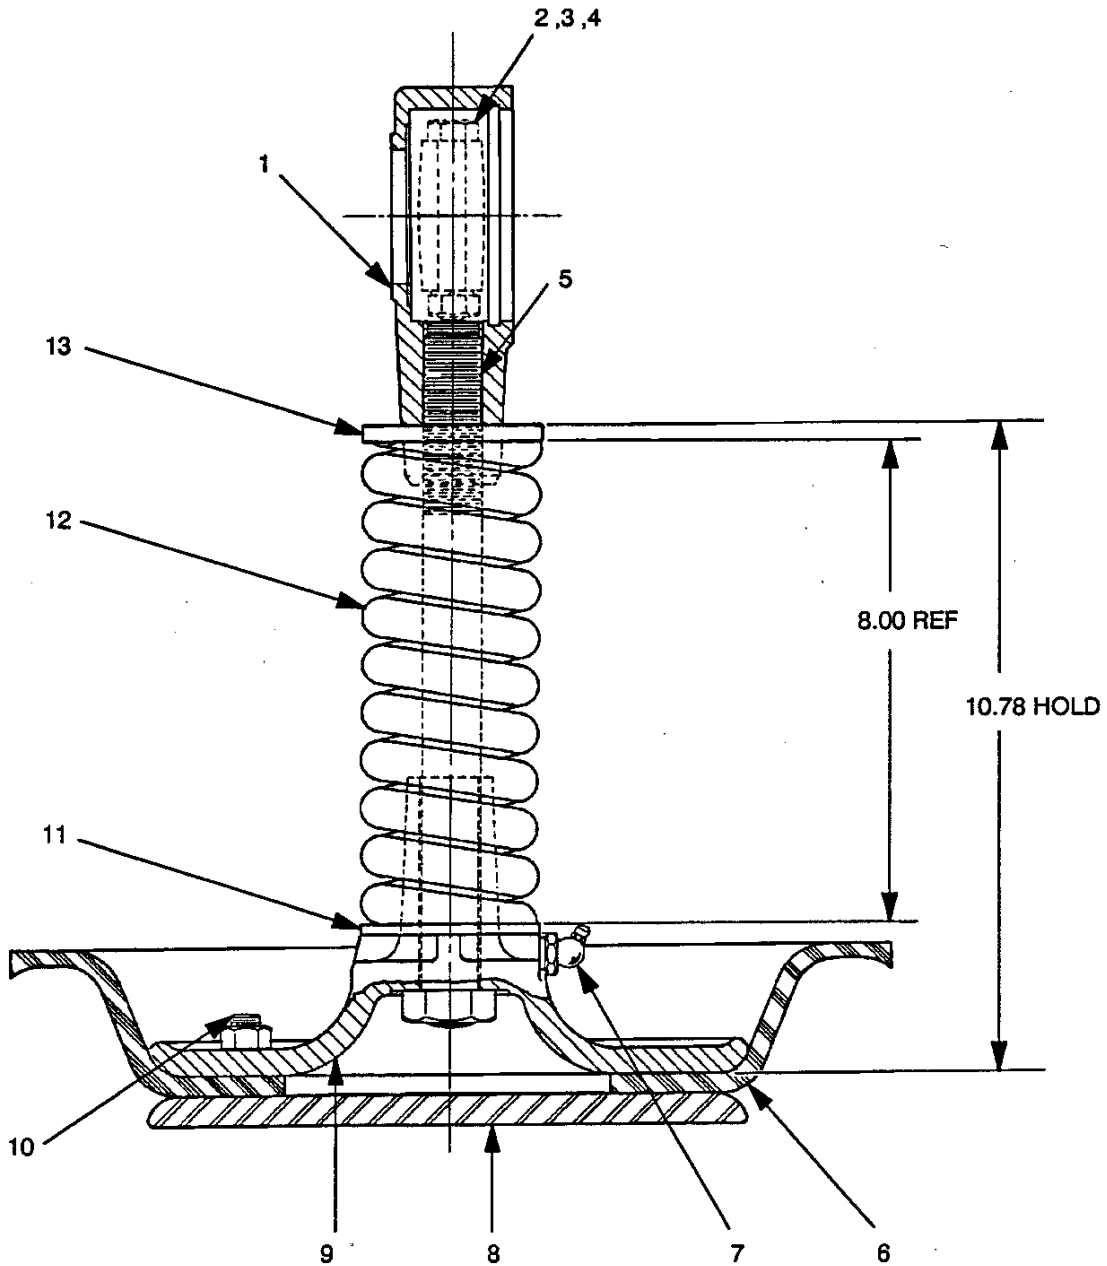

Figure 3. 6959 Plunger Rod Assembly
To remove the diaphragm (6, Figure 3), disengage the hardware (26, 27 and 28) and remove the diaphragm pot assembly (29). Inspect the diaphragm ring (30) for wear or damage. If replacement is required, the gearbox assembly (1) must be removed.
(Figure 3)